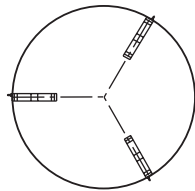

Figure 1
1. Determine where to position the mount and in which direction it should be oriented. The preferred mounting orientation for single ended beams is with the longitudinal axis of the load cell pointing toward the center of the vessel in circular mounting configurations as illustrated in Figures 1 and 2.